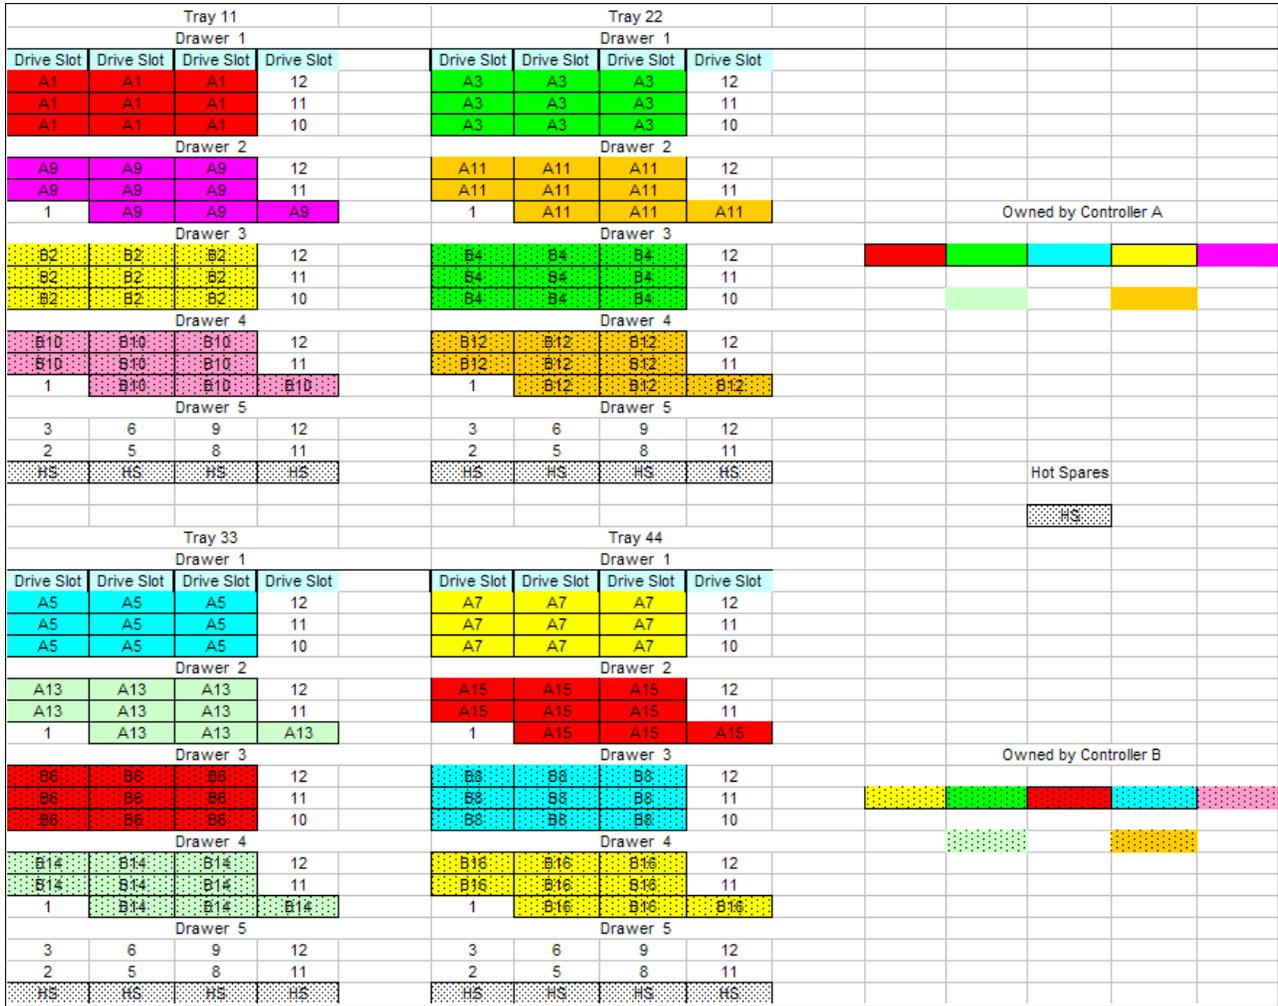
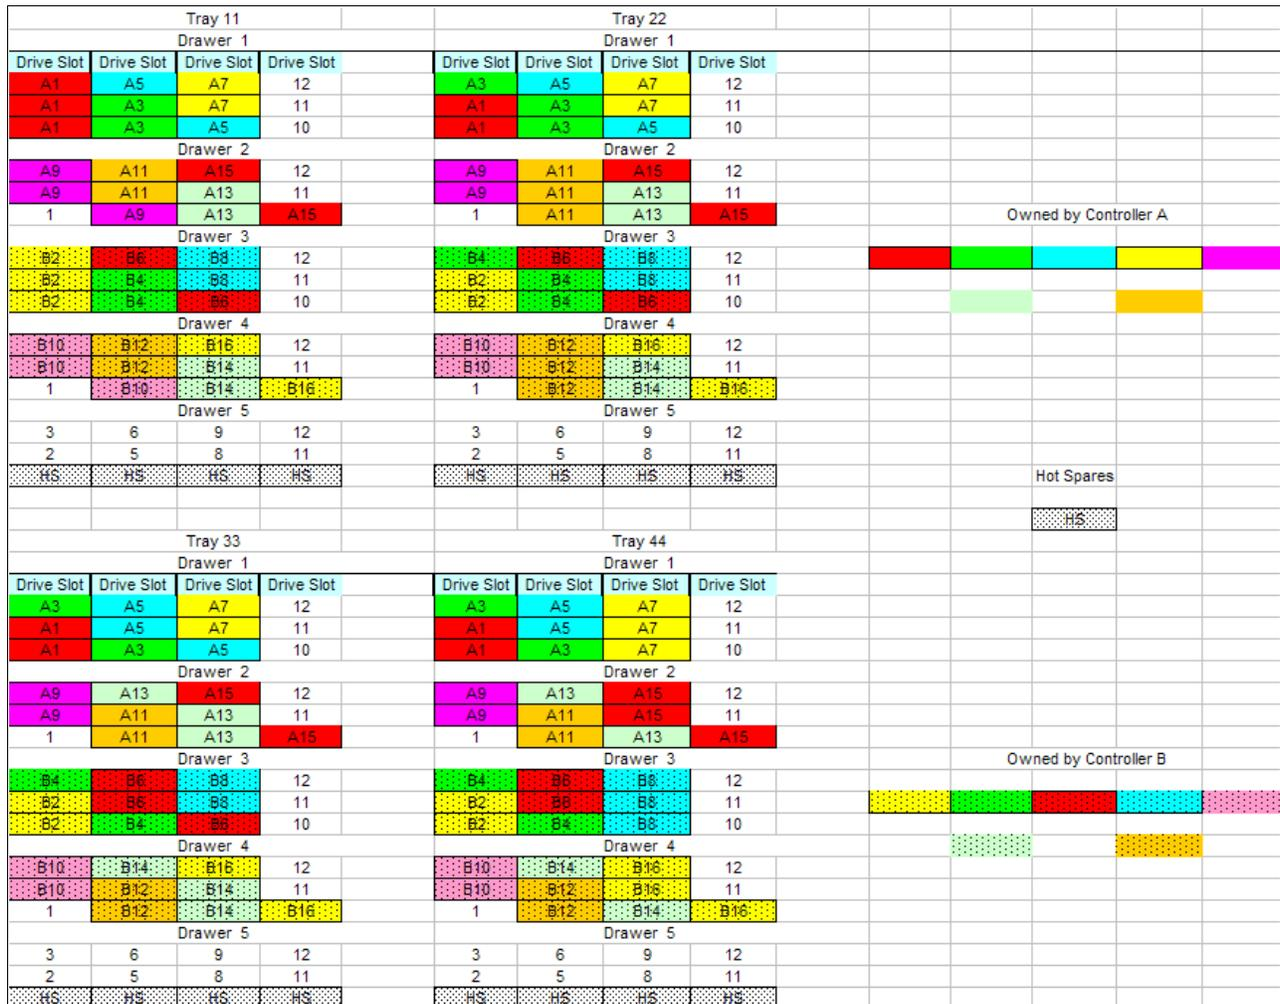

Figure 6-12 An 8 + P single enclosure and a single drawer array group layout
Figure 6-13 Test with an 8 + P shared enclosures and dedicated drawers for array group layout
We defined the following example test case layouts in 8 + P RAID5 array groups (Figure 6-12). Our testing demonstrated the maximum throughput performance numbers that are shown in Table 6-2.
Table 6-2 Maximum performance test results as seen with the Figure 6-12 configuration
Figure 6-13 shows 8 + P shared enclosures with dedicated drawers for the array group layout. Table 6-3 shows the maximum performance test results for the Figure 6-13 configuration.
Table 6-3 Maximum performance test results as seen with the Figure 6-13 configuration
As shown in Table 6-2 on page 295 and Table 6-3 on page 296, with Figure 6-12 on page 295 and Figure 6-13 on page 296, these tests adhered to the following best practice suggestions:
- ▶ Ensure that the array groups were created with as equal a balance of odd and even disks slots as possible for balanced channel or Environmental Service Module (ESM) workloads. Figure 6-13 on page 296 shows this practice. We have an odd number of drives in an array, but we have made sure to build them as equal arrays as much as possible by alternating the ninth drive of each array between the odd and even slots to keep the channels balanced.
In the Figure 6-17 configuration, we see the results of an array layout that meets most of the rules for a best practice configuration, but the layout fails to evenly balance the arrays across the odd and even drives for a balanced use of the connected loops. Table 6-7 shows performance numbers that might be at an acceptable level, but they miss the optimal performance that can be achieved with a slight drive selection layout change (see Figure 6-12 on page 295, for example).